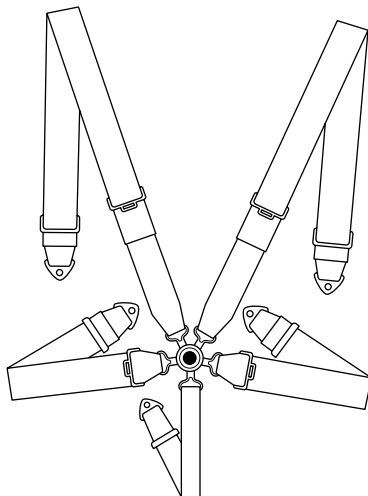

Figure 4-16:
- ✔ Five straps (as shown in Figure 4-16)